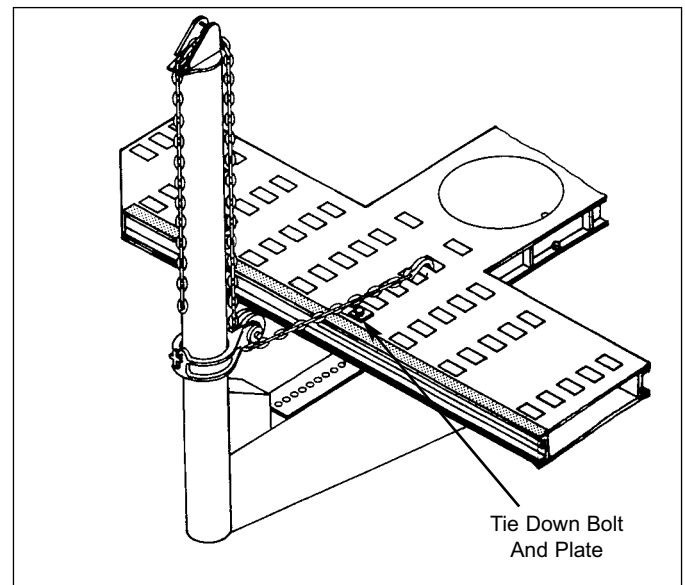

Figure 12
LATERAL PUSHES: (Figures 12 and 13)
1. Move EZ Liner tower into position and bolt it to outer tie down hole on mainframe. (See Figure 12.)
3. Position tower chain hook in tie down hole approximately 18" (460 mm) in from outside edge of mainframe. Then lower collar to remove slack chain. (See also Figure 12.)